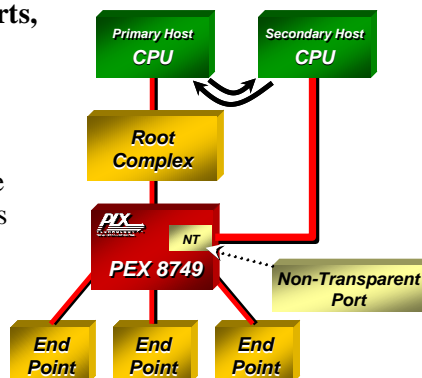

Figure 3. Non-Transparent Port
In Single-Host mode, the PEX8749 supports 2 **Non-Transparent (NT) Ports**, which enables the implementation of **dual-host systems** for redundancy and host failover capability. The NT port allows systems to isolate host memory domains by presenting the processor subsystem as an endpoint rather than another memory system. Base address registers are used to translate addresses; doorbell registers are used to send interrupts between the address domains; and scratchpad registers (accessible by both CPUs) allow inter-processor communication (see Figure 3).